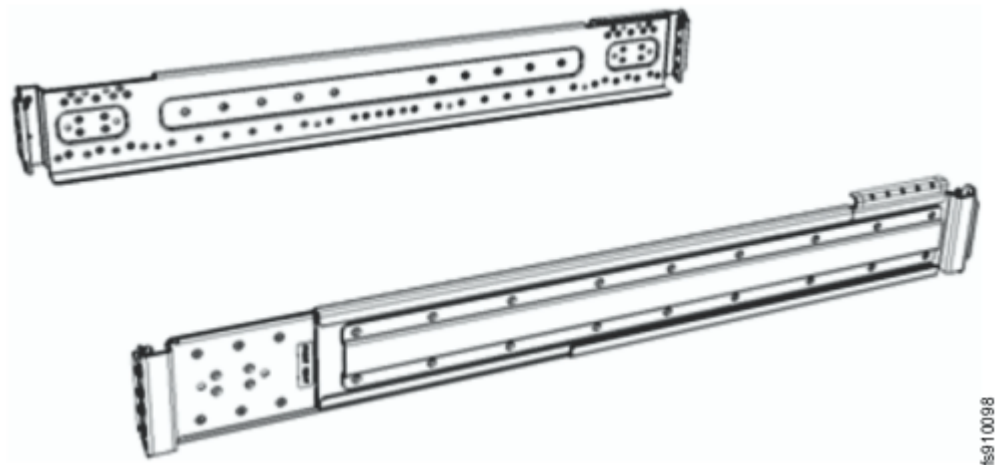

Figure 23. Control enclosure support rails
1. Locate the control enclosure rails, as shown in Figure 23 on page 61.